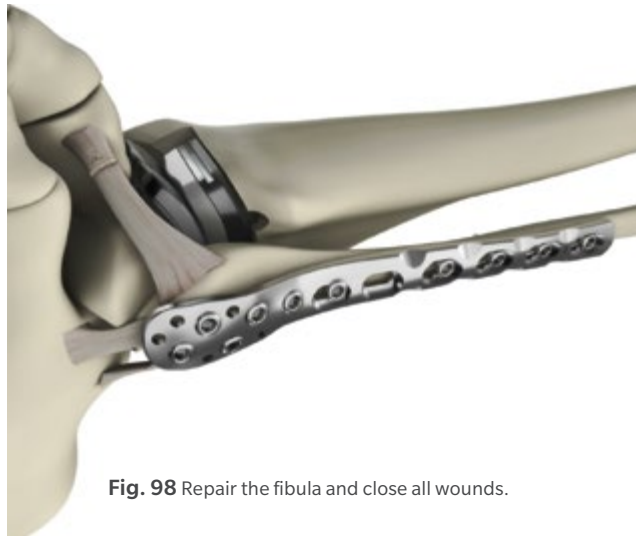

Fig. 98 Repair the fibula and close all wounds.
- Apply a fibular plate with bone screws to repair the fibula (Fig. 98).